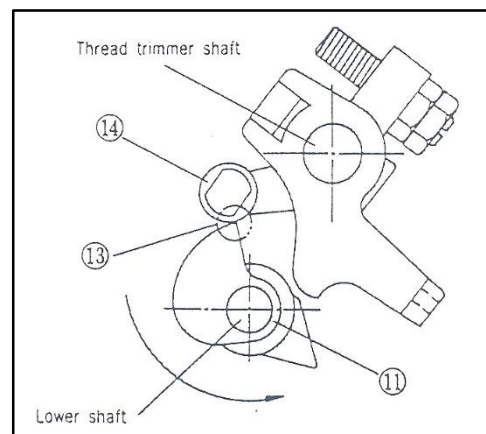

Figure 7.16
- E. Tighten up screw (9) for the thread trimming cam after adjustment. Check the roller of cam (11) with roller (14) by rotating thread trimming cam (11) by hand. Refer to Fig. 7.16.
- F. Connect return spring (4).